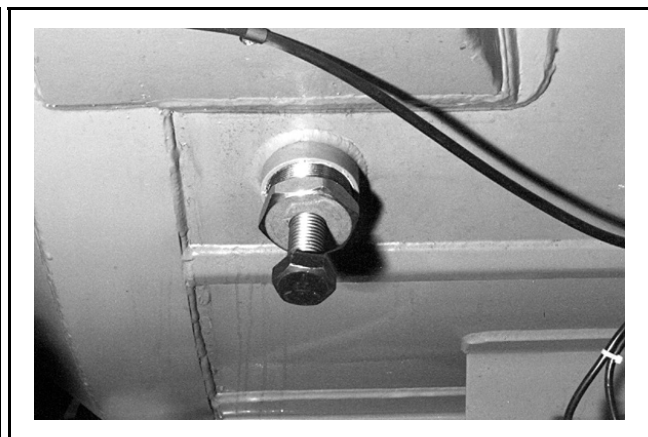

FIGURE 3 (MSSM0275AE)
2. Remove the short bolts that plug the cylinder support weldments and replace with the long bolts included in the kit (FIGURE 3). Tighten each bolt until it contacts the cylinder then tighten an additional quarter turn.
1. Remove clamps and wedges clamping cylinder to shell front. **Do not remove the long bolts supporting the cylinder (FIGURE 3) at this time.**